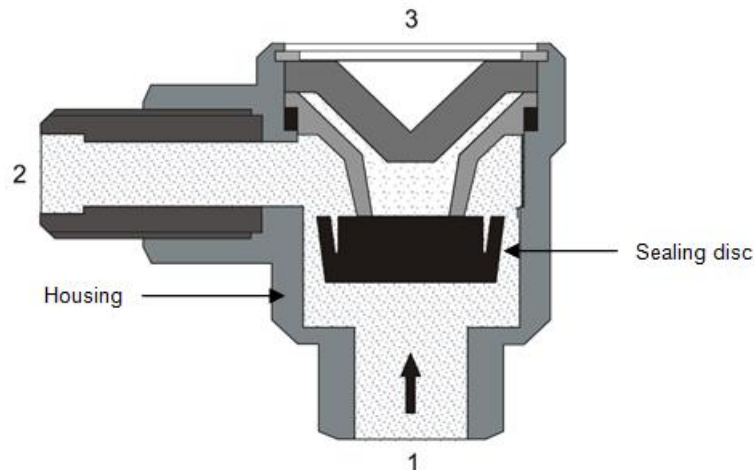

FIG 8.
- A. The quick exhaust consist of the following components: (Fig 8)